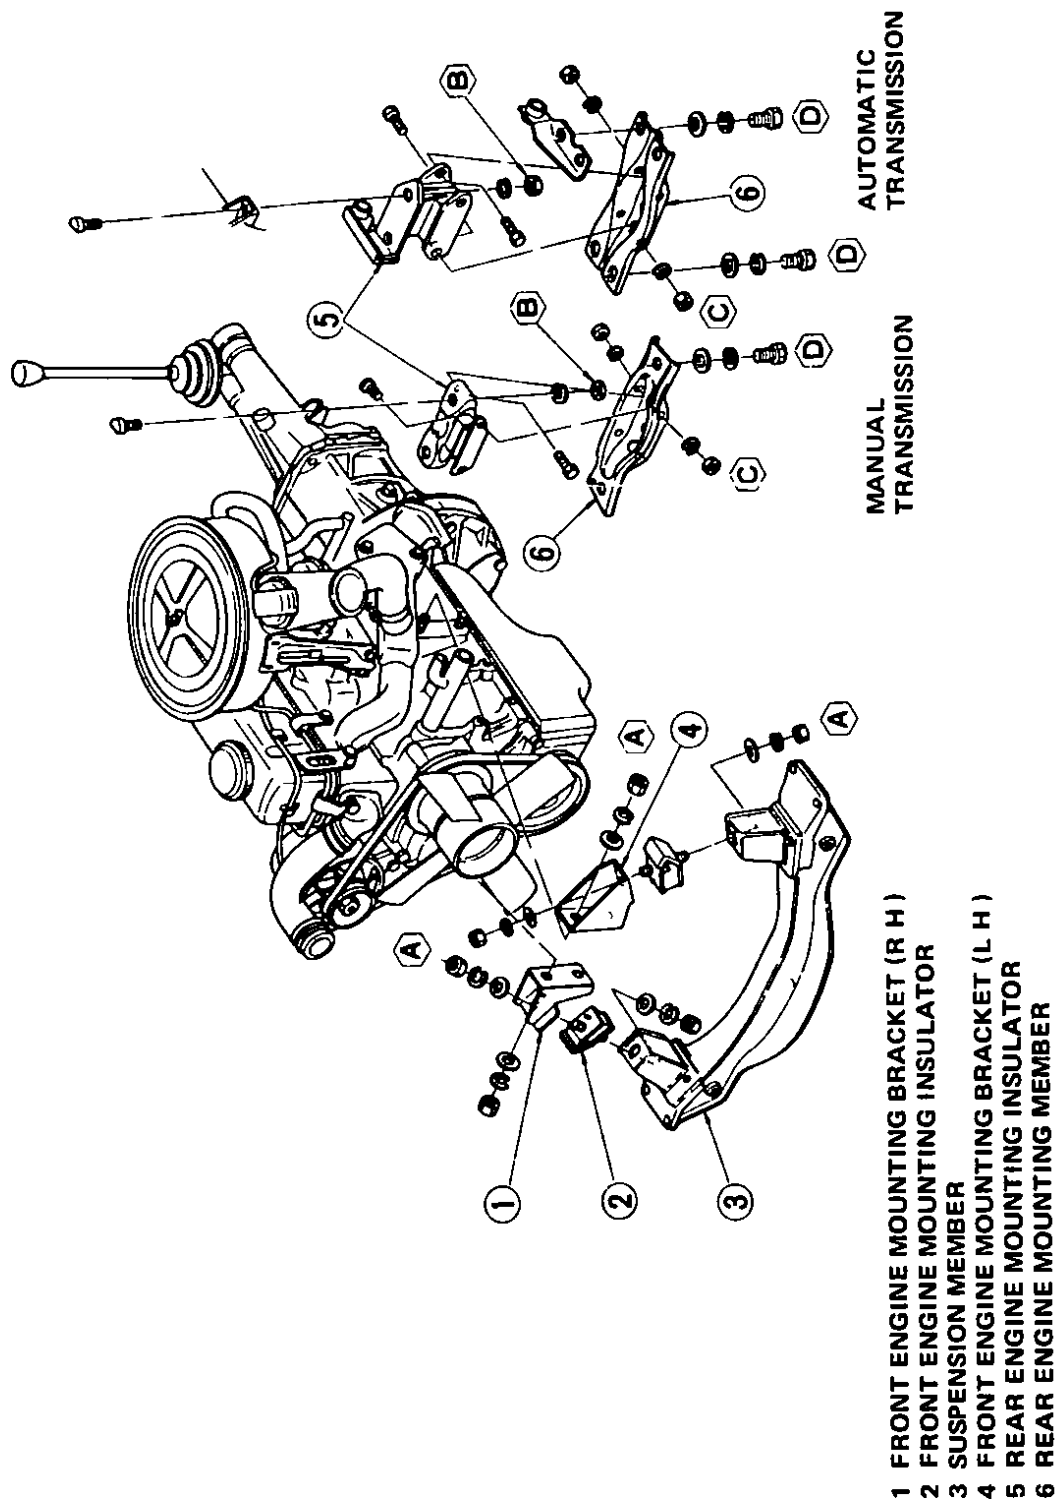

Fig 128 Engine mounting (typical)
- 2 Loosen the front engine mounting insulator upper nuts on both sides of engine, Fig. 128.
- 2 Remove the rear engine mounting member installation bolts, Fig. 128. Remove the damper from the rear engine mounting support, if so equipped.